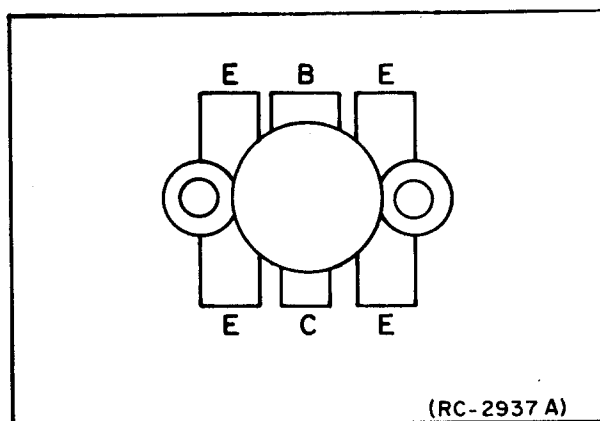

Figure 6 - Q203, Q4205 and Q4206 LEAD IDENTIFICATION
1. Trim the new transistor leads (if required) to the lead length of the removed transistor. Cut the collector lead of Q202 at a 45° angle for future identification (See Figure 5). The collector lead of Q203, Q4205 and Q4206 is identified by the smaller center lead (See Figure 6). The letter "C" on top of each transistor also identifies the collector.